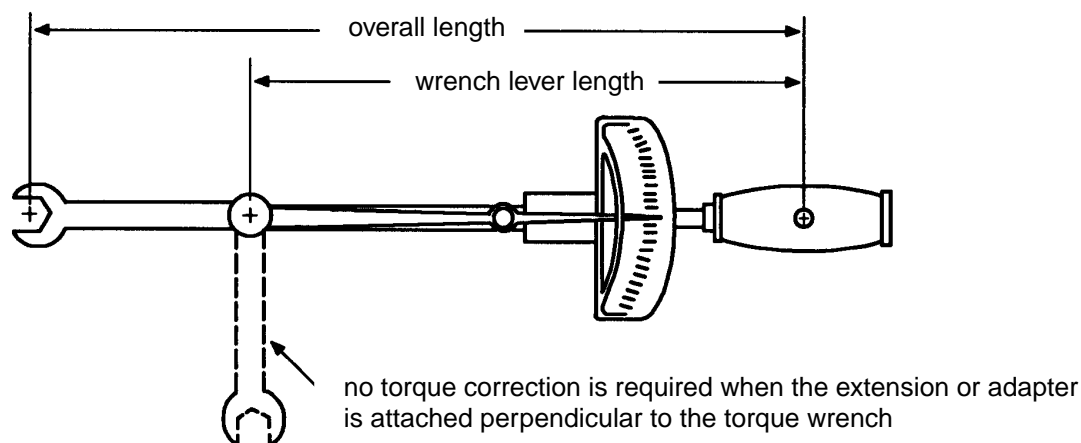

**Figure 13 - Application of Torque Stripe Mark to Torqued Connector Backshells or Adapters (Typ.)**
5.4.5 For torqued connector backshells and connector adapters, after torquing apply a torque stripe mark of white tamper proof sealant (ref. para. 4.1.3) onto the adapter body overlapping onto the fitting. The mark must be a continuous stripe approximately 1/8" wide overlapping onto the backshell or adapter and the fitting (see Figure 13). For backshells or adapters which must be re-torqued, remove the original torque stripe mark before applying a new torque stripe mark.